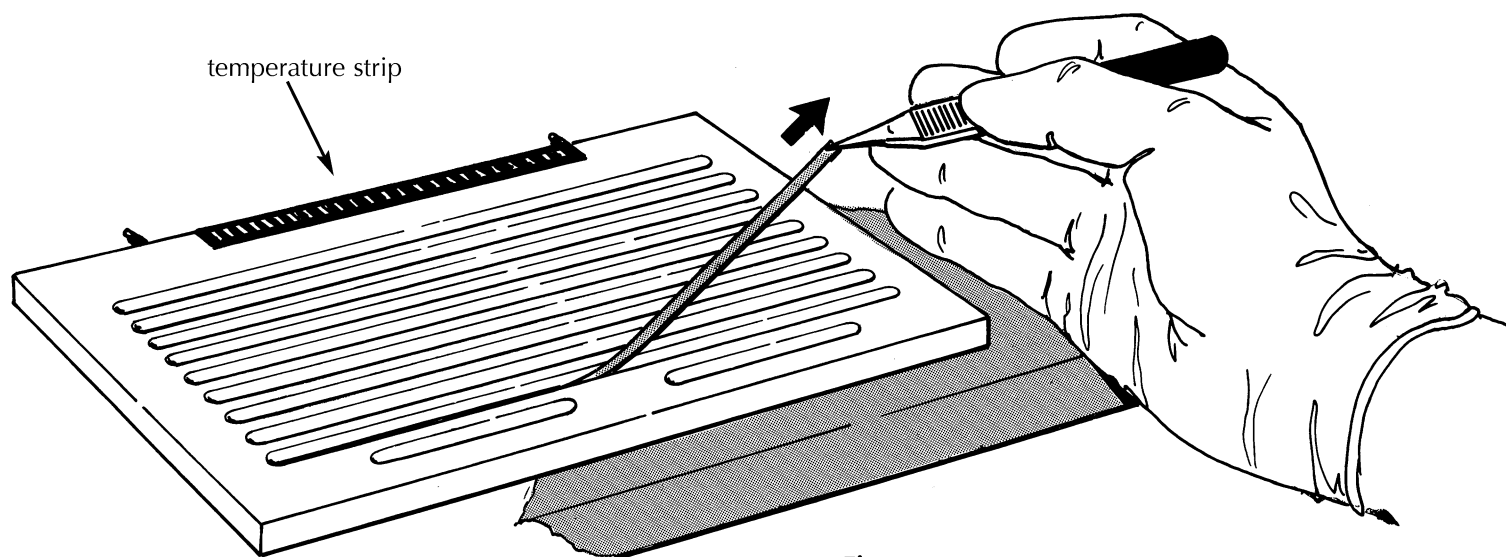

Figure 6.
2. Using forceps, grasp the end of a strip and lift it out of the groove (Figure 6).